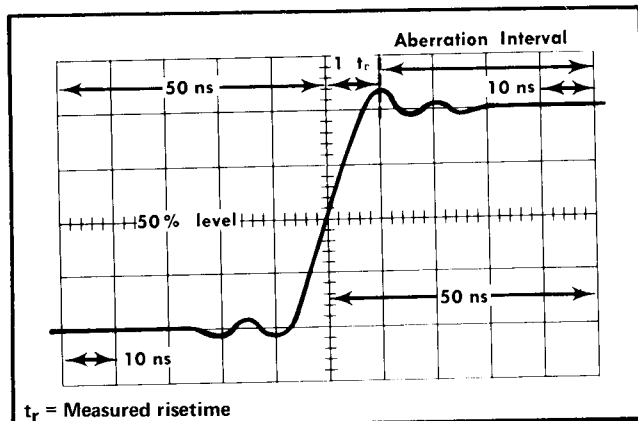

Fig. 5-8. Idealized waveform showing areas used for aberration check.
g. Center the pulse with the horizontal POSITION control. Recheck the amplitude of the pulse and readjust the generator output for four divisions if necessary using the first and last division of the graticule as the reference areas (see Fig. 5-8). If there are any aberrations within the reference areas, use the average levels as the reference. Using this technique, the average level within the first division of the graticule should be positioned to the second horizontal line below the center line and the average level within the last division of the graticule should be positioned to the second horizontal line above the center line. After the pulse is positioned vertically, adjust the horizontal POSITION control so the rising portion of the waveform crosses the center horizontal line exactly at the center vertical line (50% point of step at center vertical line).